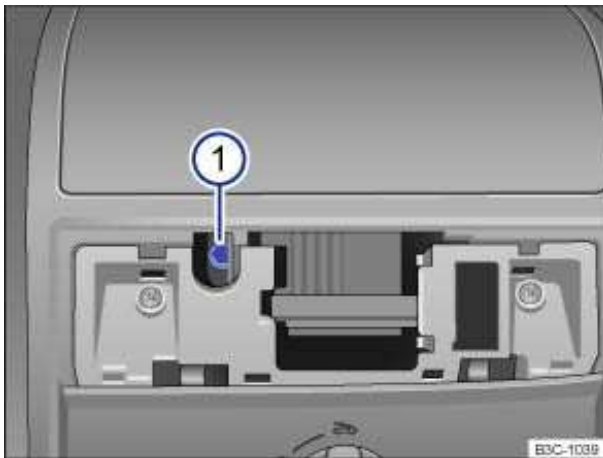

Fig. 200 Hexagonal head screw for closing the power sunroof.
- Insert a commercially available 1/6 in (4 mm) Allen wrench¹⁰ into the hexagonal head screw ⇒ fig. 200 \(1\).